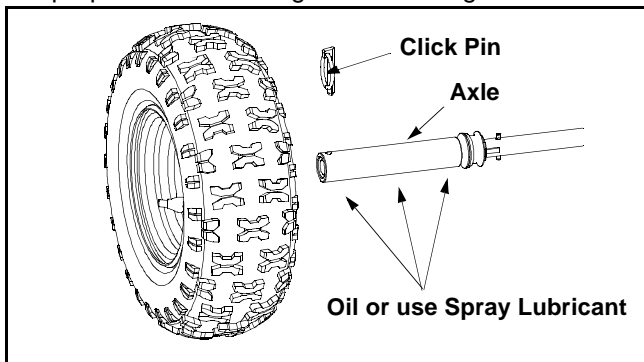

Figure 13
- Oil or spray lubricant into plastic wheel bearings inside the wheel hubs at least once a season. Remove wheels, clean and coat axles with a multi-purpose automotive grease. See Figure 13.